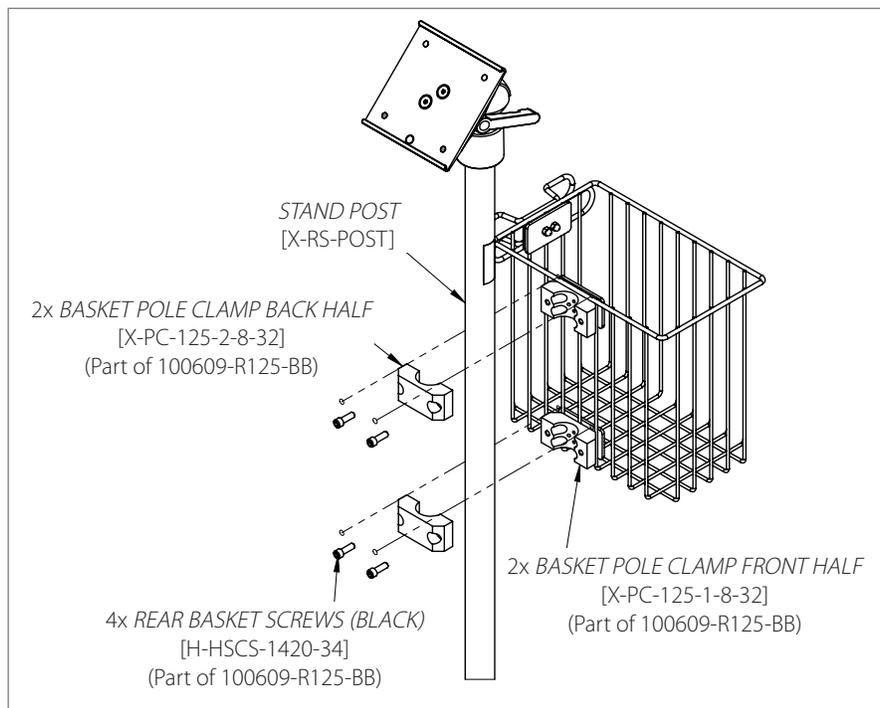

Figure 1
2. Once at desired height (typically 2" below the roll stand basket), place the *STAND POST* between the front and back clamp halves and replace the screws using a 3/16" hex key in a cross pattern (**Figures 1 and 3**).